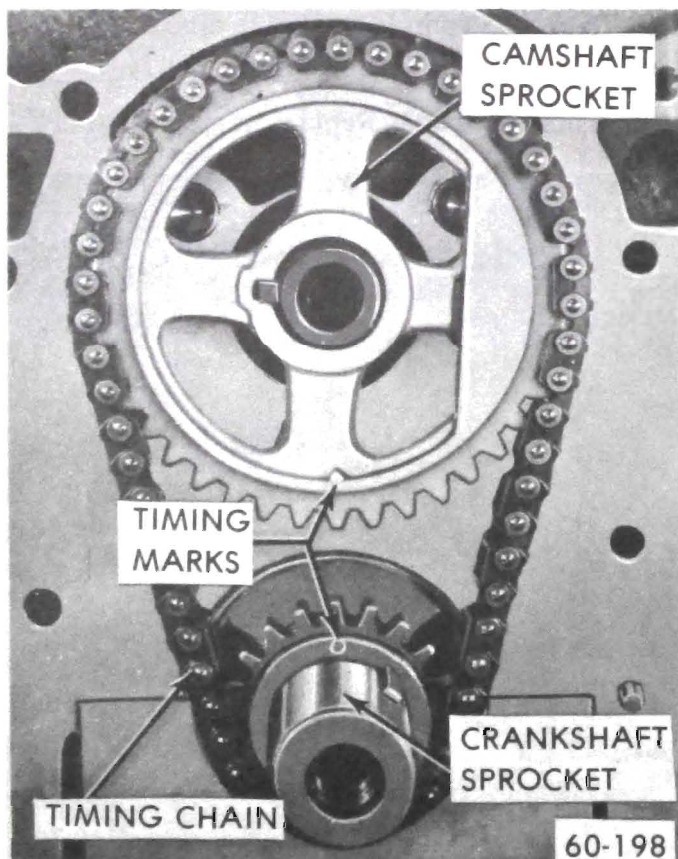

Figure 60-53 - Installation of Timing Chain and Sprocket - 350 Cu. In.
1. With timing chain cover removed (subpar. a above) temporarily install crankshaft pulley bolt and washer in end of crankshaft. Turn crankshaft so sprockets are positioned as shown in Figure 60-53. Remove harmonic balancer bolt and washer using a sharp blow on the wrench handle, so that the bolt can be started out without changing position of sprockets.
2. Turn camshaft so with sprocket temporarily installed, timing mark is straight down. See Figure 60-53. Remove Sprocket.
3. Assemble timing chain on sprockets and slide the sprocket and chain assembly on the shafts with the timing marks in their closest together position and in line with the sprocket hubs. See Figure 60-53.